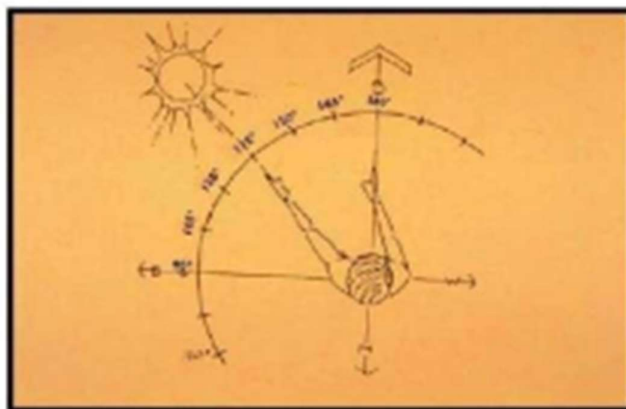

Fig. 2.15: Sun Azimuth
16. **Azimuth angle:** It is defined as the angle between the sun's rays and true South. A positive solar azimuth angle indicates a position East of South, and a negative azimuth angle indicates West of South, as shown in Fig. 2.15.